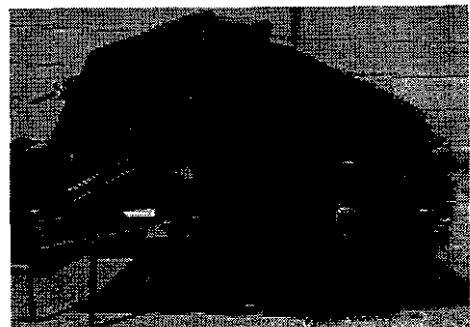

figure 22
11. Pull the brush core from the brush frame (figure 22).